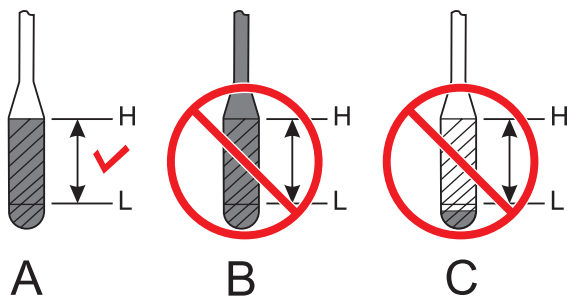

Figure 29. Engine Oil Dipstick Level
3. Reinsert the dipstick, then remove the dipstick from its holder. Check the oil level shown on the dipstick (Figure 29).